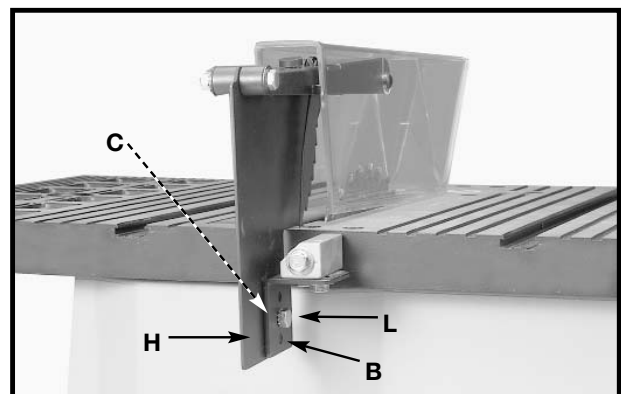
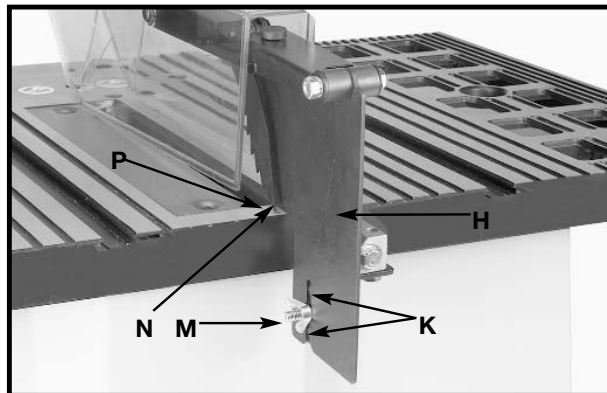

Fig. 22
Fig. 23
6. Attach the splitter (H) Fig. 22 to the splitter support bracket (B). Place a 1/4 inch external tooth lockwasher and an M6.4 flat washer on an M6x1x20mm hex head screw (L).
7. Insert the screw (L) Fig. 22 through the splitter support bracket (C) and the splitter (H). Place an M6.4 flat washer and a 1/4 inch external tooth lock washer on the screw (L). Thread an M6x1 wing nut (M) Fig. 23 on the screw (L) Fig. 23.
**NOTE:** Before tightening the wing nut (M) Fig. 23, make certain a gap of at least 1/8 inch is between the bottom edge of the splitter (N) and the top surface of the table (P) and that the protrusions (K) are inside the slot of the splitter assembly (H).